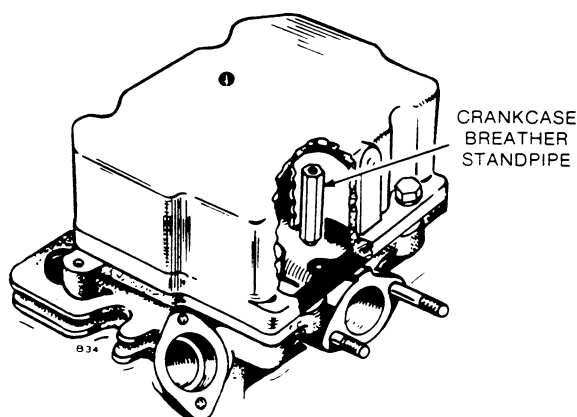

FIGURE 21. CRANKCASE BREATHER STANDPIPE
4. Clean breather tube if needed. See Figure 21.
The engine is equipped with a crankcase breather pipe that vents crankcase fumes directly from the rocker box cover to the cylinder head intake port. The crankcase breather pipe should be cleaned after every 500 hours of operation. This coincides with valve clearance adjustment and may be accomplished at the same time by your Onan dealer. Do not remove the tube for cleaning! Insert a small nail or wire from the top end, long enough to clean the entire pipe (Figure 21).